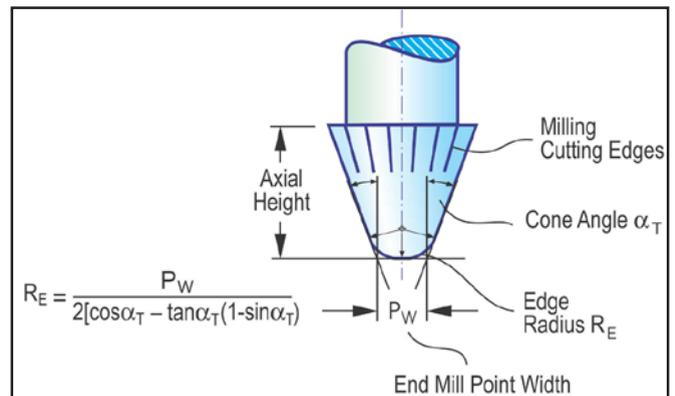

Figure 19 Fully rounded end-mill tip.
For the correct dimensioning of the edge radius  $R_E$  it is advisable to calculate first the maximum possible edge radius for the given dimensions. In addition to the cone angle  $\alpha_T$ , the end-mill point width  $P_W$  is required. The end-mill point width should match the Blade Top Width (item 09, Fig. 18). A larger  $P_W$  can be used within limits, however  $P_W$  cannot be larger than the smallest point width of the gear slot (item 8 in top section in Fig. 18). The formula in Figure 19 is used to calculate the largest possible edge radius for the end-mill  $R_E$ . In the present case, using  $P_W = 1.84$  mm, the largest possible edge radius is  $R_E = 0.65 \cdot P_W = 1.2$  mm. After  $R_E$  is calculated, it has to be compared to the Edge Radius Pressure Angle Side (item 06 in Fig. 18). If the result of  $R_E$  is smaller than item 06 in Figure 18, then the calculated number of  $R_E$  must be used for the end-mill.